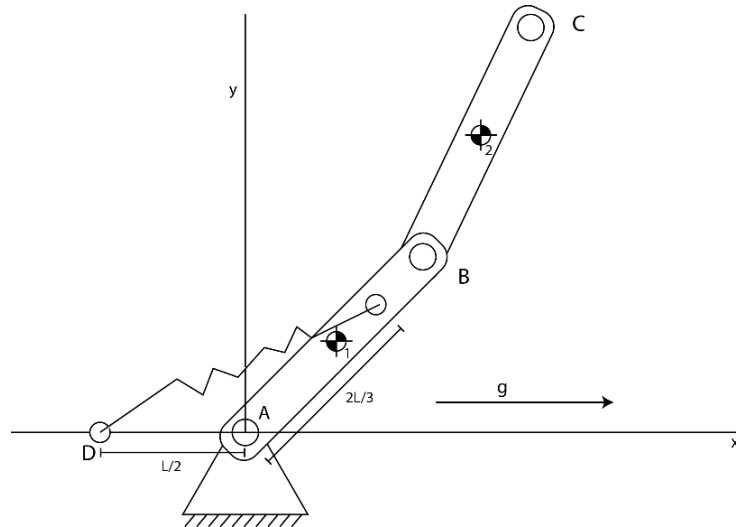

Figure 3: Addition of a passive element
Here we were asked to recalculate the results of assignment 3 with the method of Lagrange. In assignment 3 a passive element, an active element and an impact force were added to the model. Let's first start with adding the passive element. This spring element is depicted in Figure 3: Addition of a passive element and is attached to the ground in D, with coordinates  $(-L/2, 0)$  and connected to bar 1 in point E, being at  $2/3$  of the length measured from point A. The free length of this spring was said to be  $l_0 = \frac{2L}{3}$  and its linear stiffness  $k = (15/2)(mg/l)$ . With the method of LaGrange adding a spring is easy since a linear spring is a conservative force. As a result, the spring force can just be added to the potential energy equation V. Since the both the potential function as the spring force are defined as being negative (1) we get the following result: